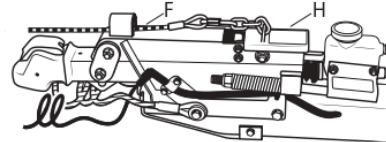

Figure 11
⚠ NEVER tow the trailer unless the emergency brake pedal (H) is in the fully down position. (Figure 11) See decals also, for proper position of emergency brake pedal for towing. The emergency brake cable (F) attaches to the emergency brake pedal (H) on top of the hydraulic brake mechanism. (Figure 11) When the emergency brake cable is pulled forcefully, the emergency brake pedal will move upwards and lock, activating the trailer brakes. The trailer brakes will remain activated until the emergency brake pedal is reset to the fully down position. Call U-Haul at **1-800-GO-U-HAUL** if you need the emergency brake reset to down position.